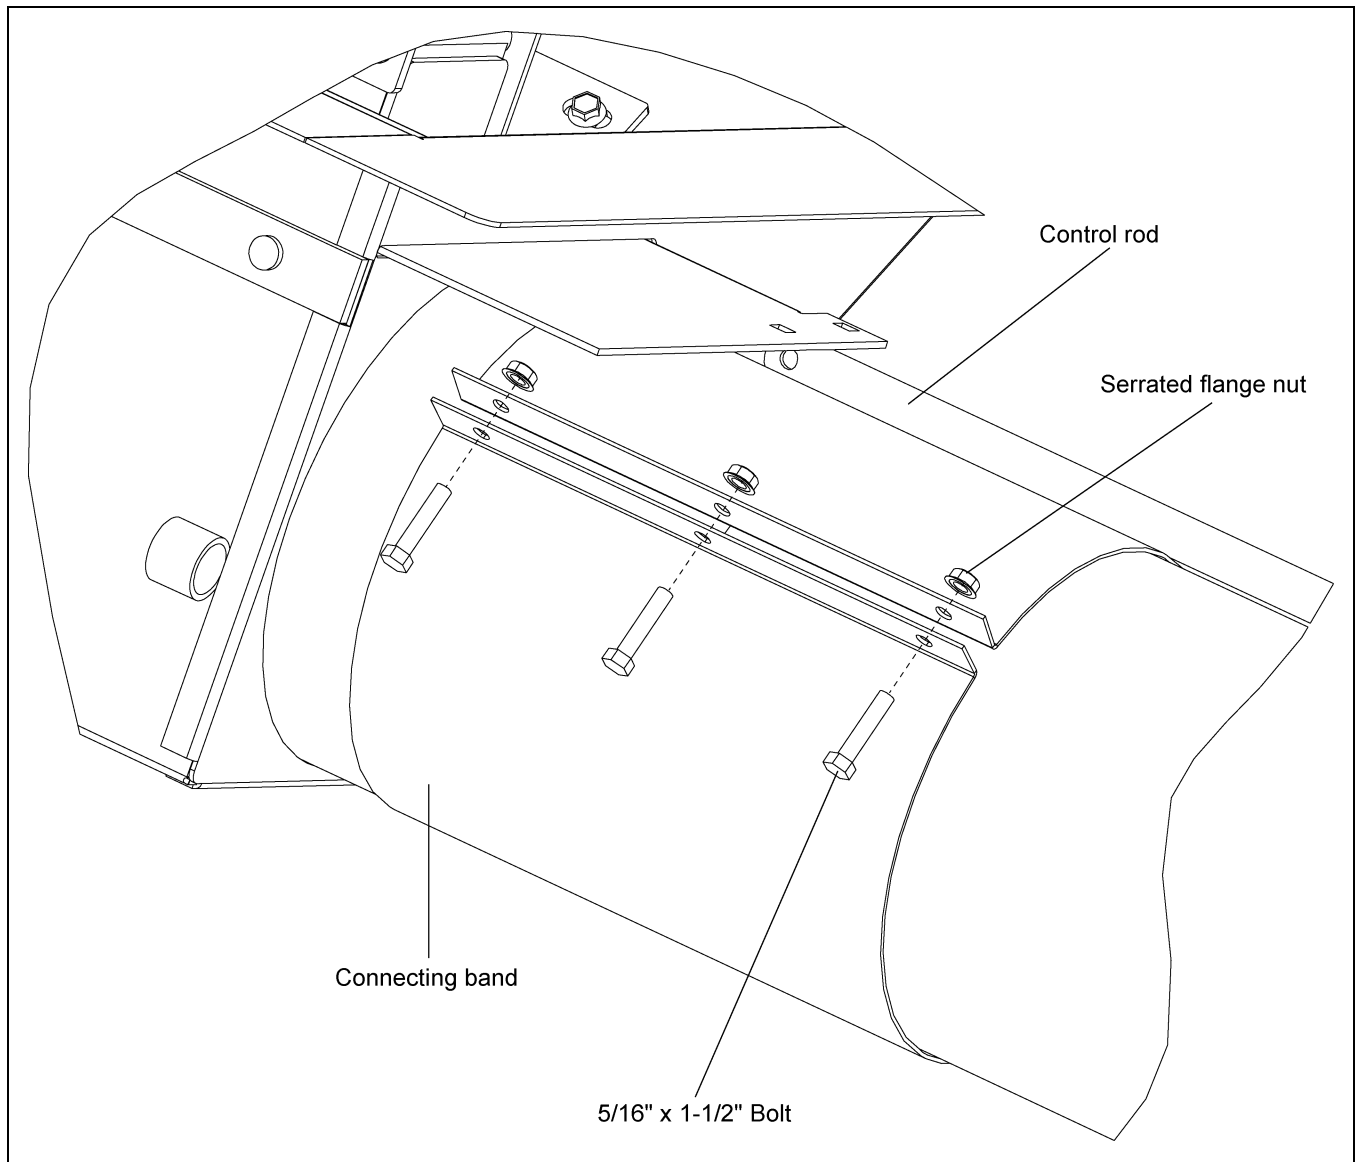

Figure 4J
5. Slide the connecting band until it is equally positioned over both the unload tube and the center well tube. Position the connecting band so that it will not interfere with the control rods. *(See Figure 4J.)*